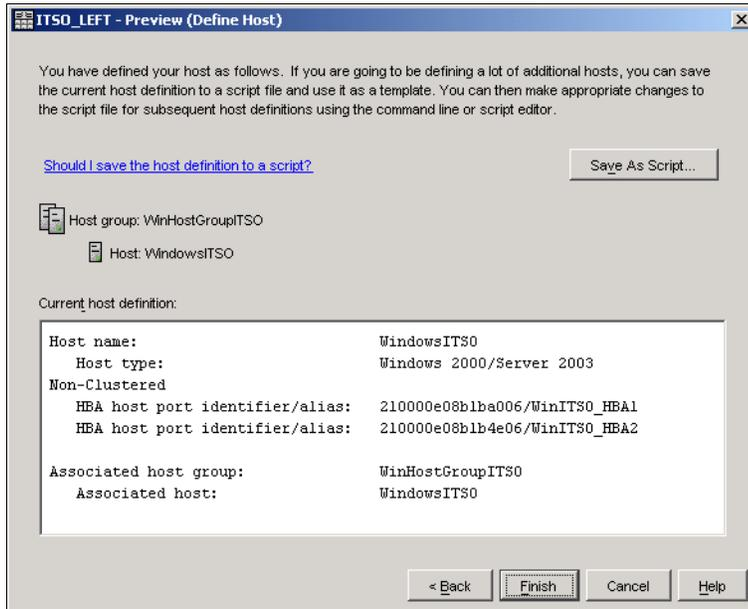

Figure 5-64 Define Host: Preview
- Finally, you have the chance to preview the new host definition (Figure 5-64). If all the selections are correct, click **Finish** to define the new host.